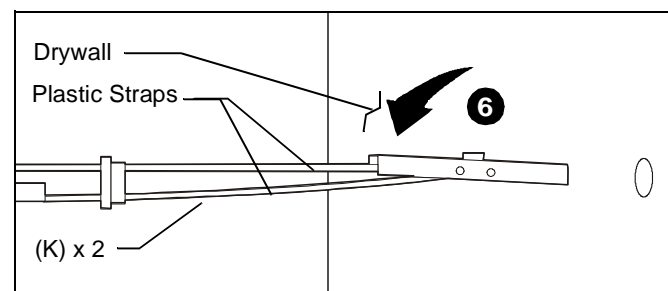

Figure 9
6. Hold metal channel on anchor (K) flat alongside plastic straps and slide channel through hole. (See Figure 9)